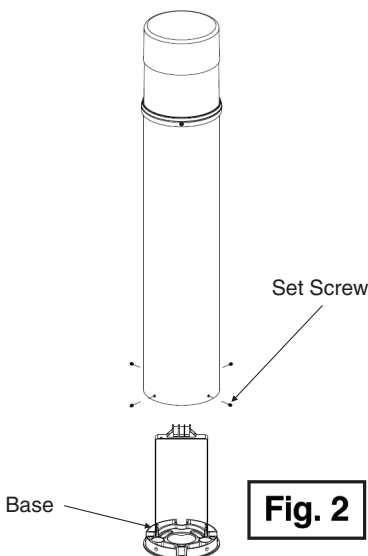

Fig. 2
3. Remove the four (4) set screws from the bottom of the fixture and remove the base plate (see **Fig. 2**). Disconnect the orange quick-connect between the terminal block and the LED driver if necessary.